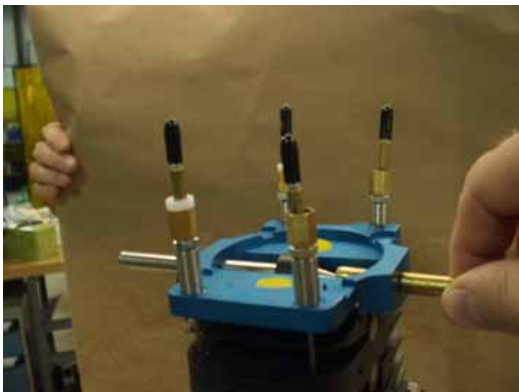

Figure 97 - Push OC Pin Out of Spine
3. Tap or push the O.C. pin out of the spine (Figure 97).